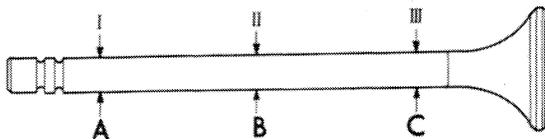

Figure 21
- Using a micrometer, measure the valve stem at points "A", "B" and "C", Figure 21.